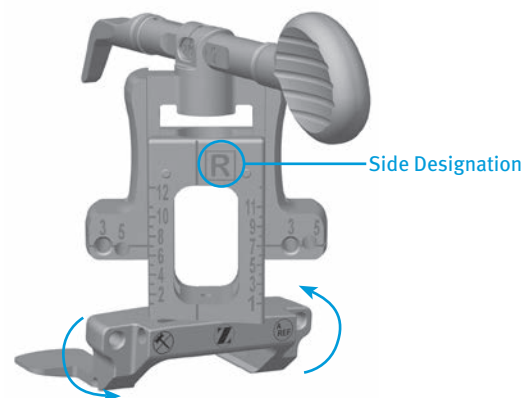

Fig. 116
- Rotate the feet of the Anterior Referencing Sizer so the appropriate “Left” or “Right” markings are visible as the Anterior Referencing Sizer is placed on the bone (Fig. 116). External rotation can be set at 3° or 5° from the posterior condylar axis.